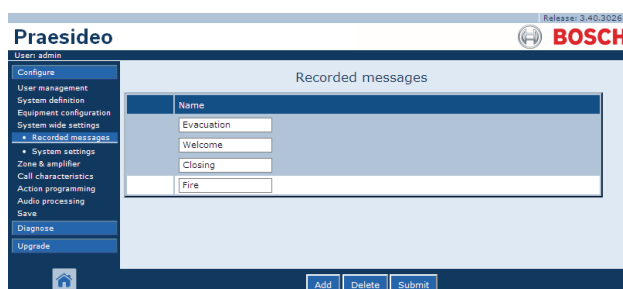

figure 45.7: Unregister message, step 2
- 2 Click anywhere in the row of the recorded message that has to be deleted. The entire row becomes highlighted (see figure 45.7).